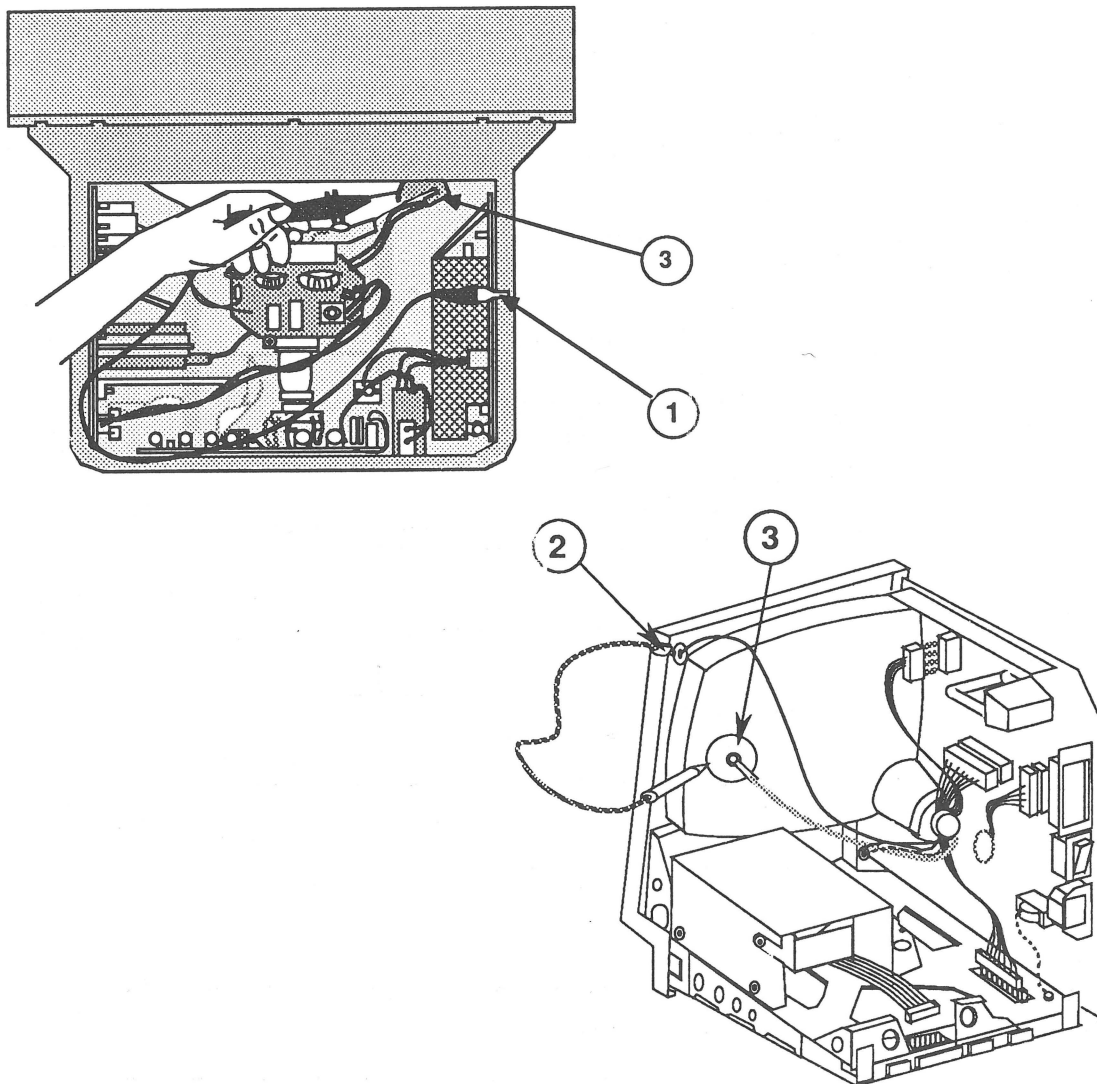
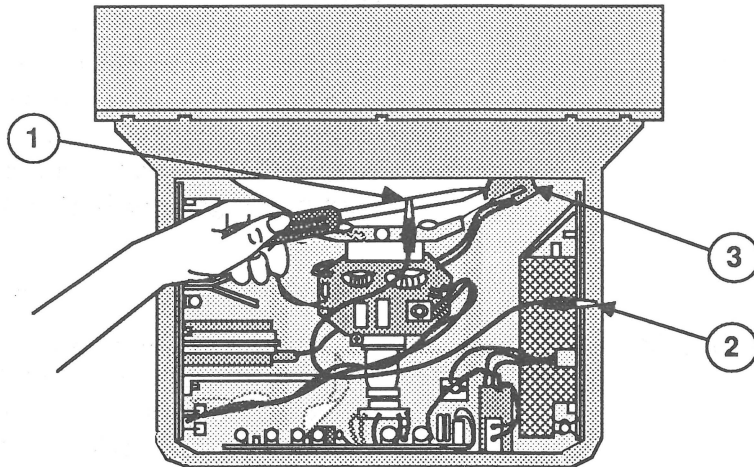

FIGURE 4
FIGURE 5
5. Attach the clip of the CRT discharge tool to any metal part of the monitor chassis (Figure 4, #1) **or to the ground lug of the Macintosh** (Figure 4, #2). If you are using the screwdriver method, attach one end of the alligator lead to the metal screwdriver blade (Figure 5, #1). Attach the other end of the alligator lead to the monitor chassis (Figure 5, #2) **or to the ground lug of the Macintosh.** (Figure 4, #2).
7. Hold the CRT discharge tool or the insulated screwdriver to the tube surface, and insert the tool probe or screwdriver blade under the anode cap (Figure 4, #3 or Figure 5, #3) until the probe or blade touches the anode ring.